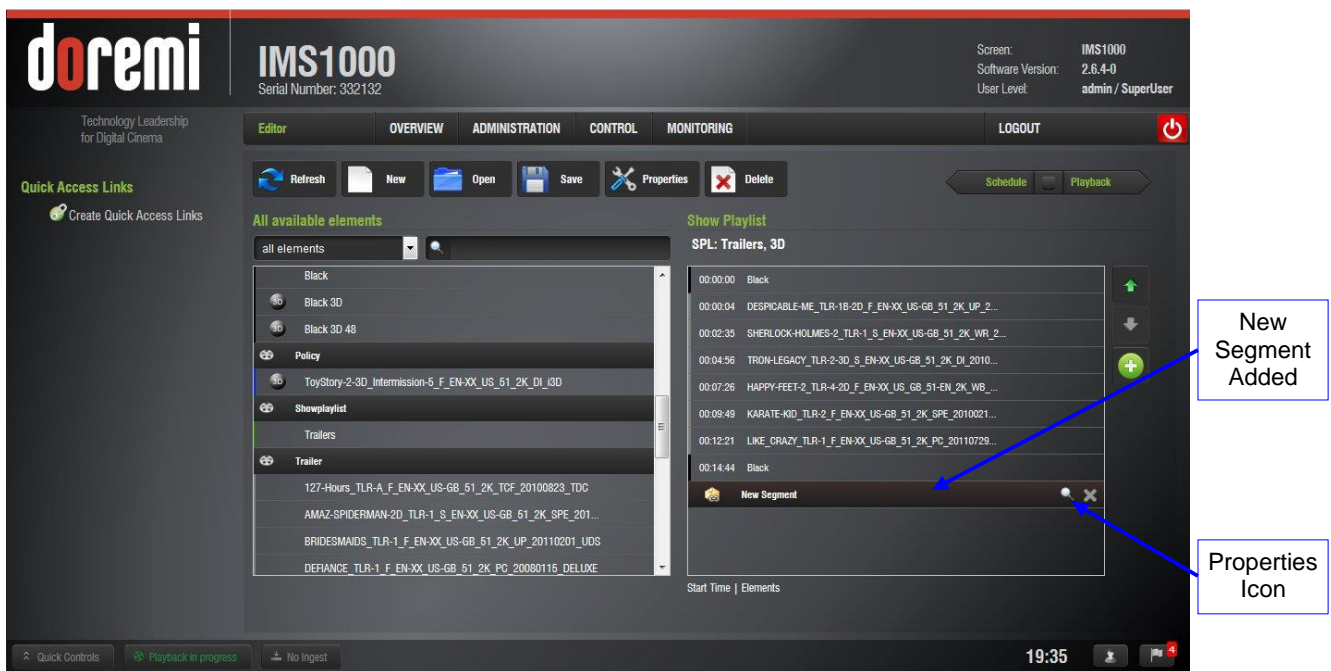

Figure 242: New Segment
- To rename the segment, highlight it and click on the Properties icon on the right (Figure 242). Click the Save Pack Name button to save the name.